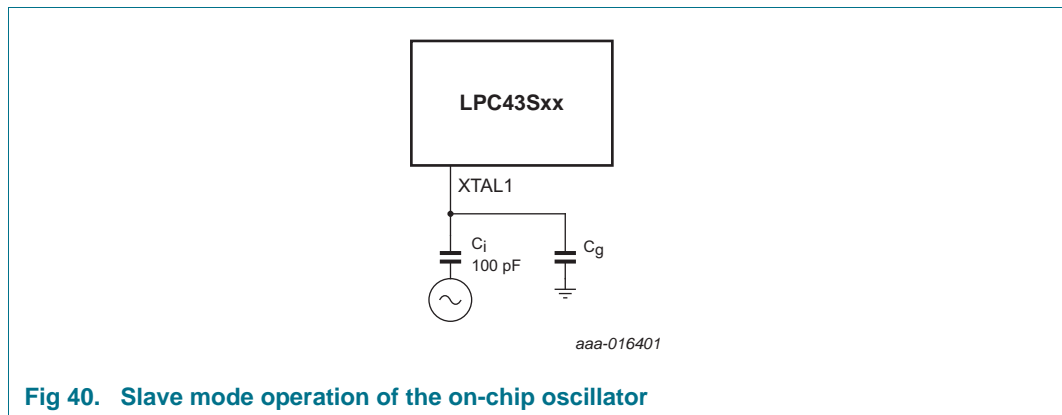

Fig 40. Slave mode operation of the on-chip oscillator
- In slave mode the input clock signal should be coupled by means of a capacitor of 100 pF (C_C in Figure 40), with an amplitude of at least 200 mV (rms). The XTAL2 pin in this configuration can be left unconnected.
An external clock can be connected to RTCX1 if RTCX2 is left open. The recommended amplitude of the clock signal is $V_{i(RMS)} = 100$ mV to 200 mV with a coupling capacitance of 5 pF to 10 pF. $V_{i(RMS)}$ must be lower than 450 mV. See Figure 40 for a similar slave-mode set-up that uses the crystal oscillator.